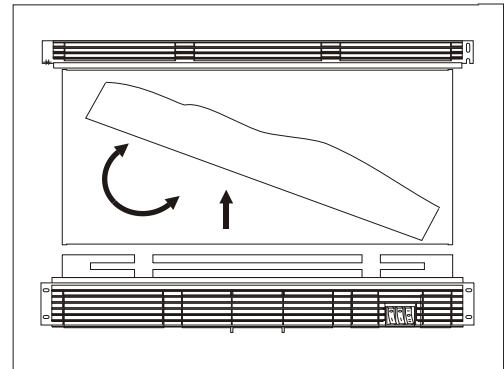

Fig 4
6. Lift ember bed and take it off. (see fig 4)